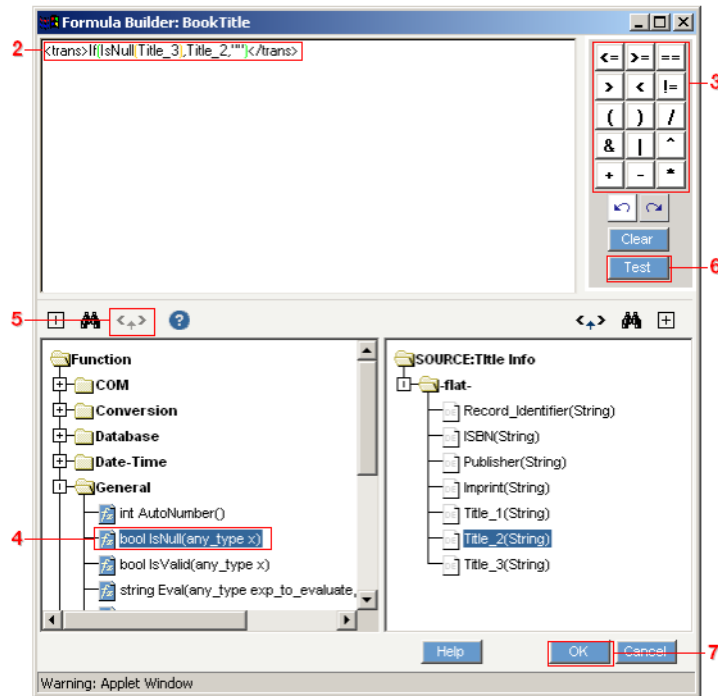

Figure 19-2. Use the Formula Builder applet to manipulate the value of any source data element to properly match its target element.
- ❷ The value of the mapped source data element that you selected is loaded into the Formula Builder's upper pane.
- ❸ (Optional) If you need to use a logical operator in your expression, select the location in the expression where the operator should be placed, then click the appropriate operator button.
- ❹ Select the function you want to use from the **Functions** tree in the left pane.
- ❺ Add the selected function to your expression by clicking the **Insert** button.
- ❻ (Optional) Click the **Test** button to open the Formula Tester dialog. The Formula Tester is where you can test the results of your formulas by entering the values you would like to supply as input to the formula. The resulting output will be displayed at the bottom of the dialog.
- ❼ Compare your work to Figure 19-2 below. When you have finished your expression, click **OK**.